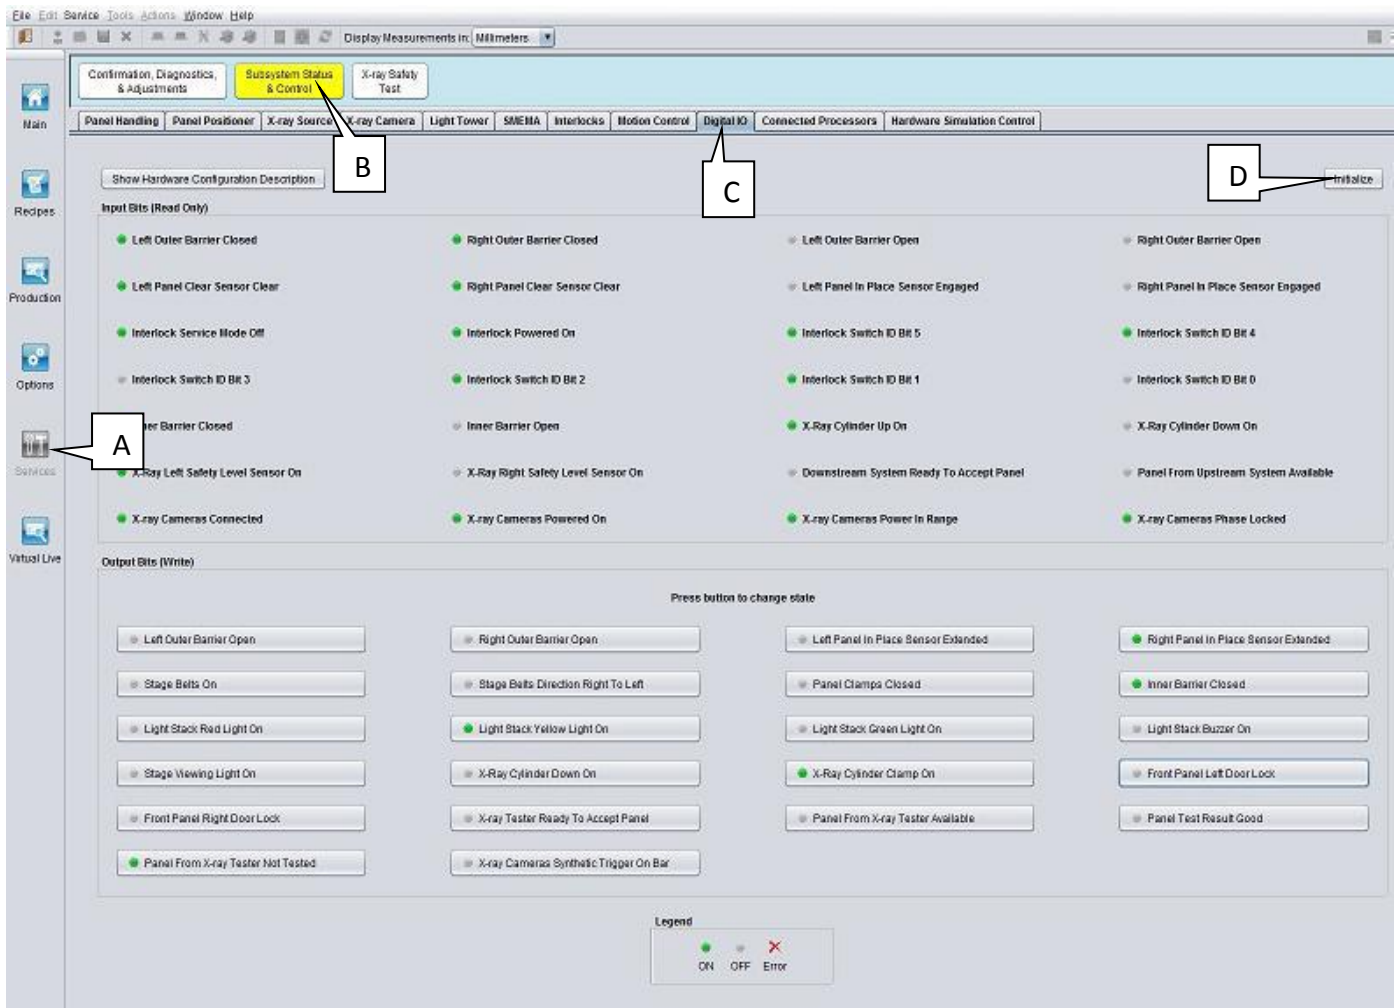

Figure 4 Digital IO
7. Go to Digital I/O tab and initialize as show in Figure 4.